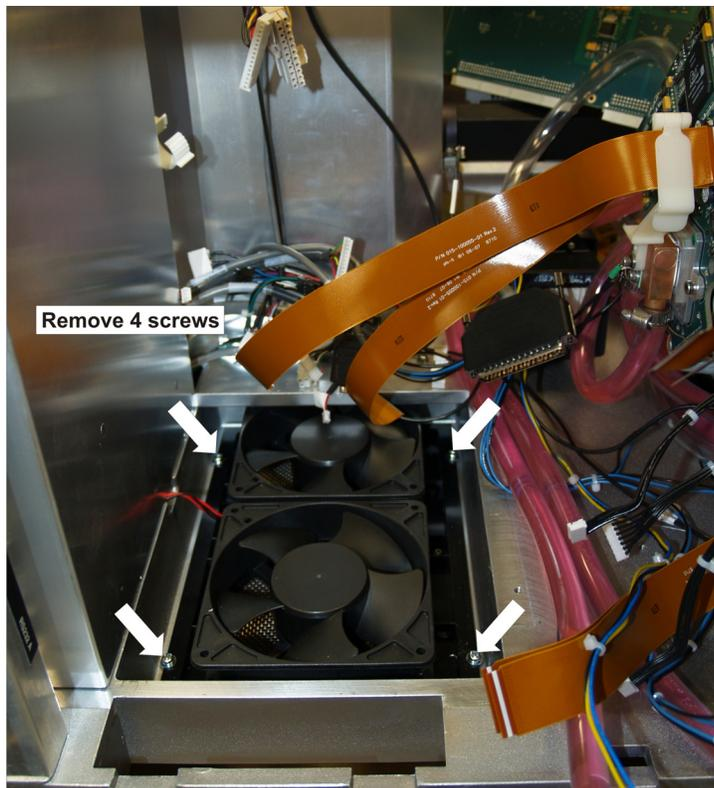

FIGURE 1-21 REMOVE CARD CAGE FANS
8. Remove 4, #2 Phillips screws securing the bottom cover/fan assemblies to the base. (Figure 1-21)